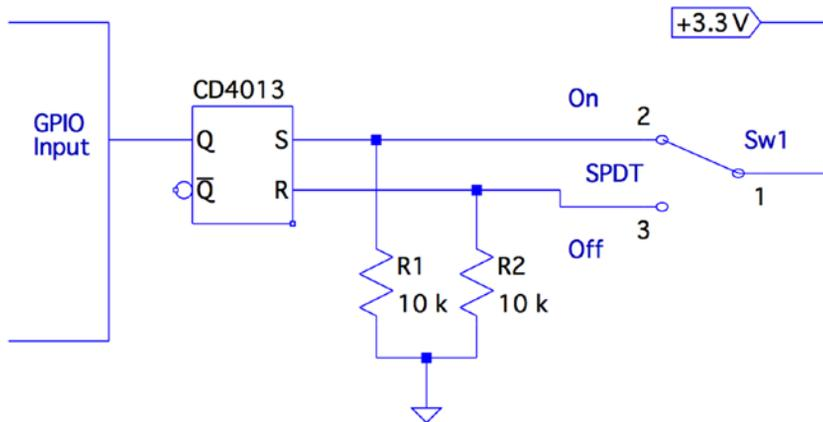

Figure 29-1. Using a flip-flop for debouncing
There are several ways to reduce or eliminate the problem. One approach is to apply a flip-flop ahead of the GPIO pins, as shown in Figure 29-1. One end of a SPDT switch is wired to the flip-flop reset input, while the other is wired to the set input. In this manner, a single pulse on either end changes the flip-flop state and keeps it stable.
From Figure 29-1, recall that we are using the flip-flop output Q to drive a GPIO input. The flip-flop's V_{OL} is much lower than the maximum value for V_{IH} , so that works well. Additionally, from the table, notice that the V_{OH} level of the CD4013 output is well above the minimum required for V_{IH} for the GPIO input as well. From this signal comparison, we can conclude that the CD4013 part should play very nice with the Pi when powered from 3.3 V.
■ **Caution** Unused CMOS *inputs* should not be left unconnected. If an unused input has no contribution to your design, ground it. If you must have the input in a high state, wire it directly to the +3.3 V supply. No limiting resistor is required, since a CMOS input draws no current. Likewise, do not omit R_1 and R_2 , shown in Figure 29-1. Unused CMOS *outputs*, however, can be left unconnected.